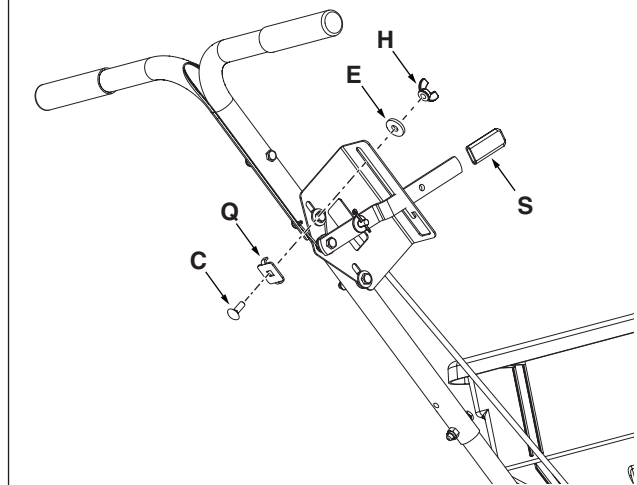

Figure 16
STEP 16: (SEE FIGURE 16)
- Assemble the adjustable stop (Q) to the control bracket using a 1/4" carriage bolt (C) through the stop (Q) and through the slot in the control bracket. Secure on the other side with a nylon washer (E) and a nylon wing nut (H). Slide the control arm grip (S) onto the control arm.